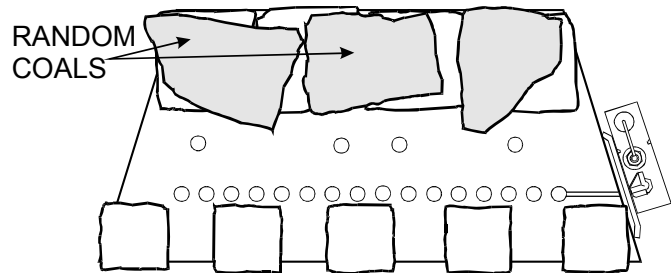

Figure 21
2. Next place the **random coals** over the previously laid coals, as shown in **Figure 21**, ensuring that they are stable in position.